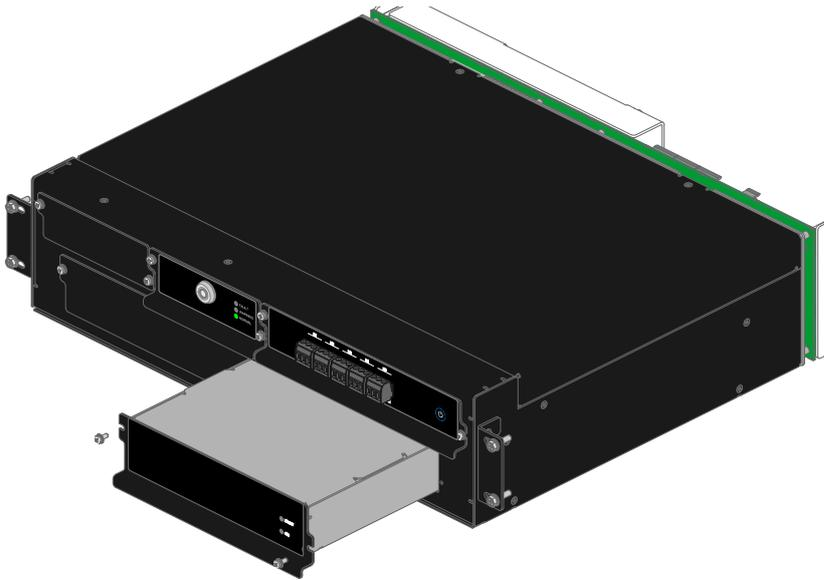

Figure 8.7: Replacing the protection power supply and protection module of the management module
- To remove the module, remove the two M3 fixing screws, as shown in Figure 8.7 on page 8-5. This module does not have a hotswap latch for identification, so the steps above must be followed rigorously to avoid impacting the product operation.